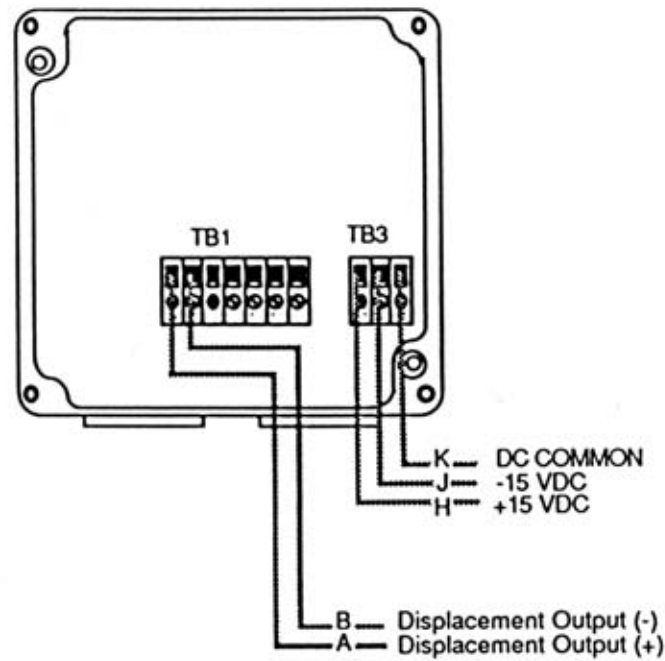

Figure 4-2. J1 Connections (Strain Relief)
2. **Strain Relief Only:** Fabricate the J1 cable, and prepare the cable as described earlier. Identify the connections to TB1 and TB3. Refer to Figure 4-2 (or 4-3 for velocity output) to determine the appropriate J1 connections.